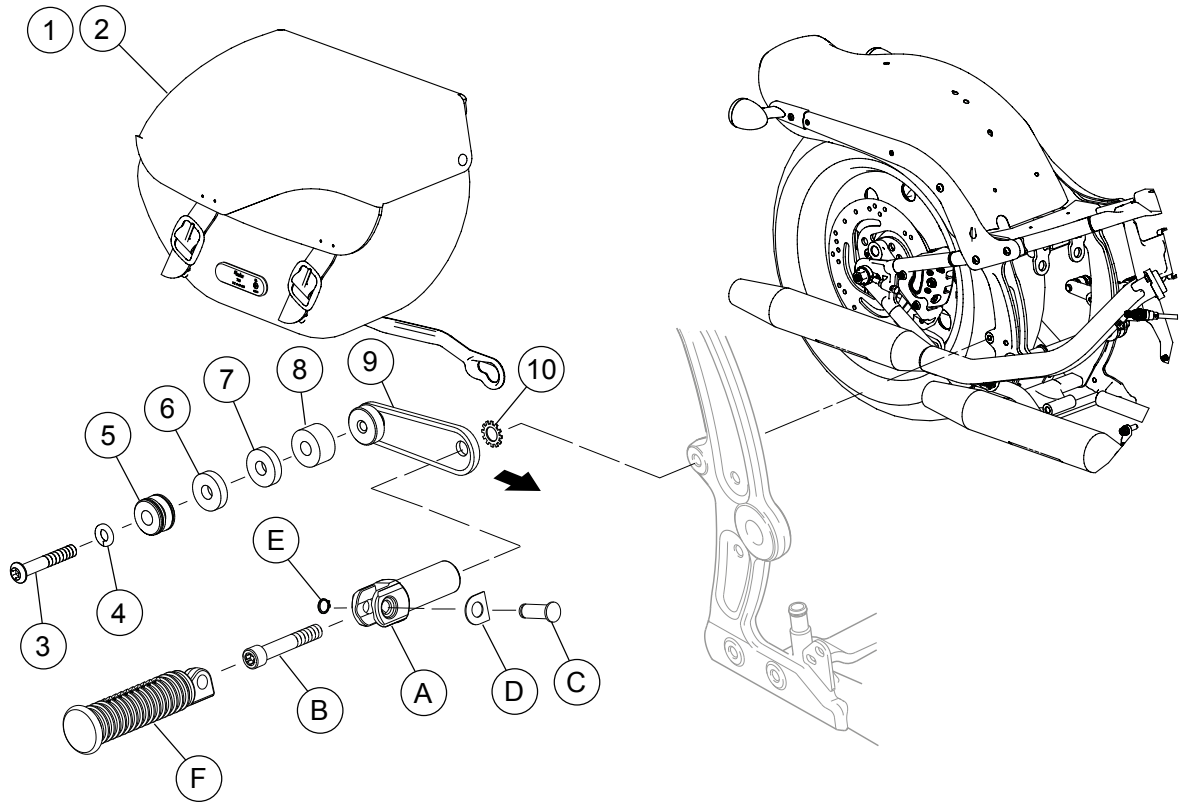
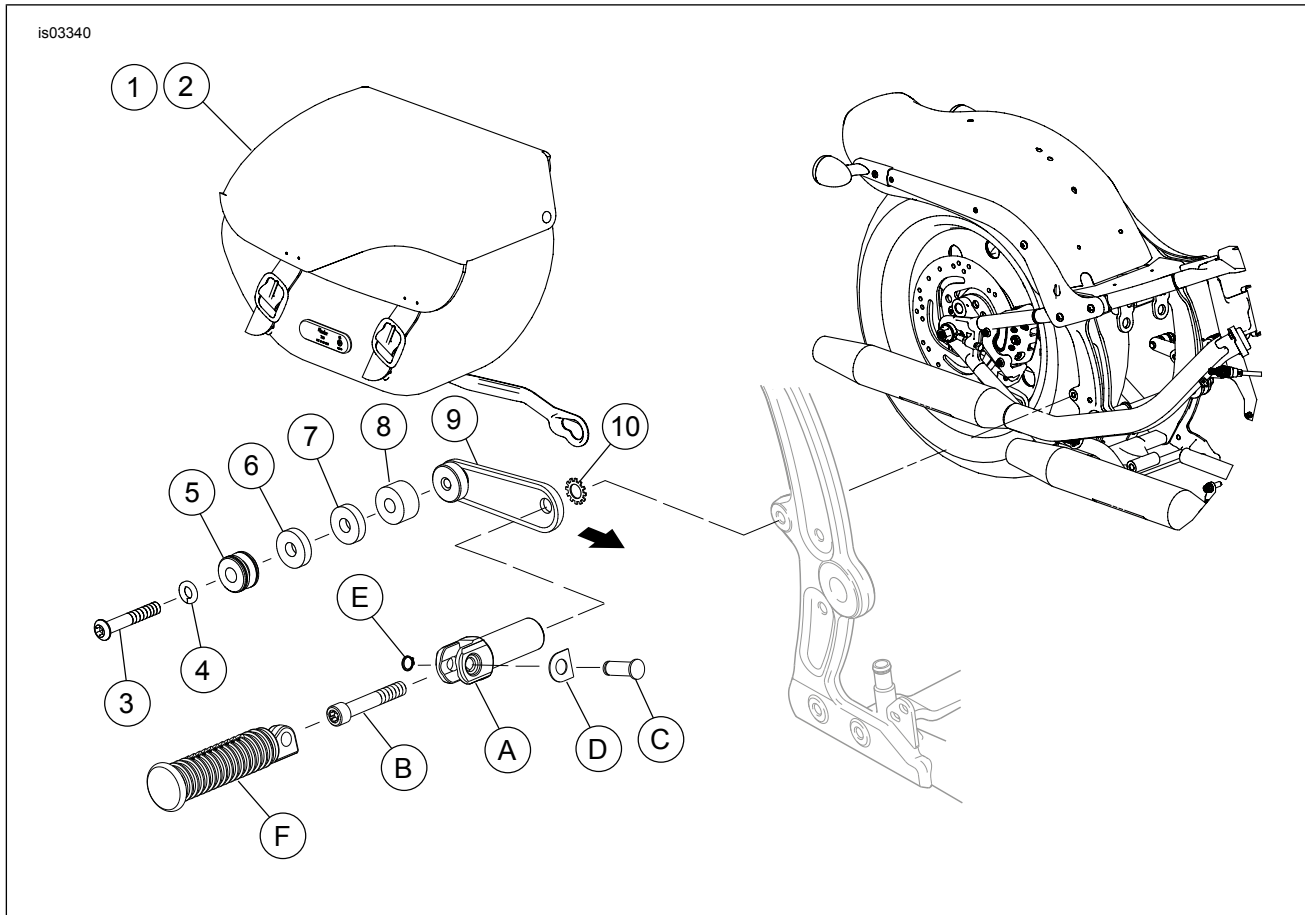

Figure 7. Service Parts: 2003-Later FLST/C and 2003-2005 FX Softail (Except FXSTD) Detachable Saddlebag Kit
Figure 8. Service Parts: 2006-Later FX Softail (Except FXSTD) Detachable Saddlebag Kit
2. See Figure 7 or Figure 8. Rotate lower front support (9) (with spacer(s) and mini docking point installed) so the lower front mini docking point (5) is fully seated into the smaller diameter of saddlebag lower support arm keyhole slot.
- a. Rotate footpeg support (A) so the footpeg slot angles up toward the rear at a 10-15 degree angle from vertical.
- b. While holding lower front support (9) to prevent rotation, tighten screw to 47.5–61 N·m (35–45 ft-lbs) using an extended T-50 TORX drive head.